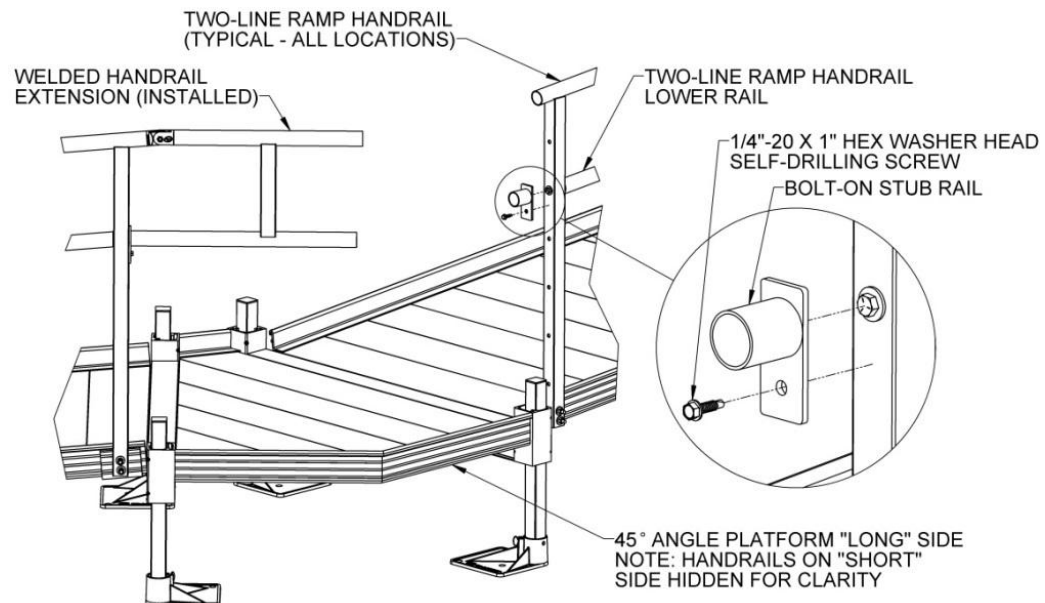

FIG. 4.19
- 4.9.11. Attach a BOLT-ON STUB RAIL to the ramp handrail post on the opposite side of the welded "H". Center the large hole in the BOLT-ON STUB RAIL over the bolt and washer attaching the lower ramp handrail (or over the second hole from the top if no rail is present) and secure using a 1/4"-20 x 1" hex washer head self-drilling screw (FIG. 4.19).